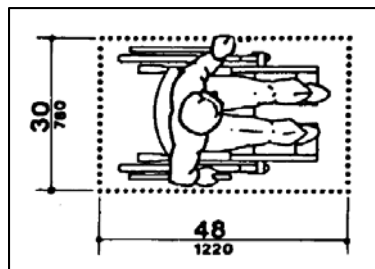

Figure 14 - Push Button Clear Space
- A clear space 2.5 ft. x 4.0 ft. minimum is provided adjacent to each push button (see **Figure 14**)